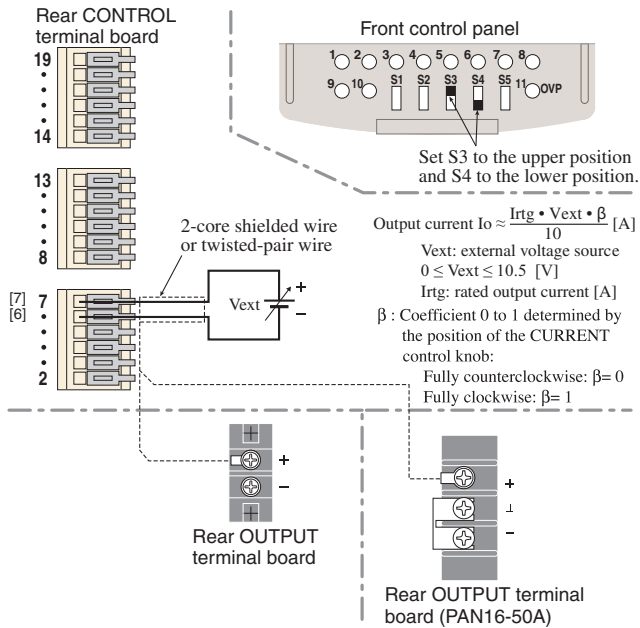

Fig.4-14 Connection and setup for output current control using external voltage
NOTE • For output current control with an external voltage, you can use the CURRENT control knob to adjust the ratio of the output current to the input voltage from the external voltage source (Vext). (See Fig.4-14.)
4. Set the control switches S3 and S4 to the position as shown in Fig.4-14.
5. Connect the voltage source across the control terminals [6] and [7] as shown in Fig.4-14.